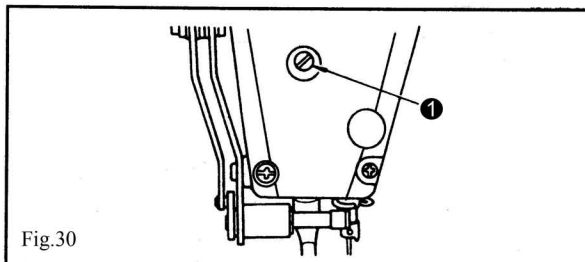

Fig.30
24. Adjusting the height of the presser bar (Fig.30)